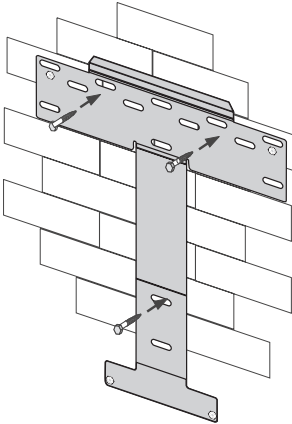
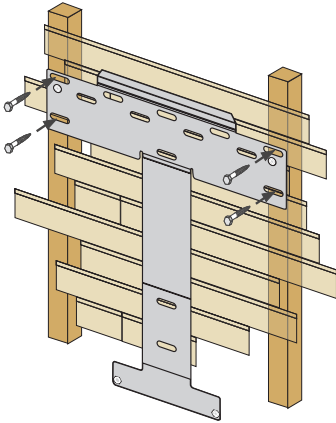

Figure 4-5: Mounting Bracket (stone wall mounting)
Figure 4-7: Mounting Bracket (wood wall mounting 2)
The Sunny Boy is shipped with a T-shaped wall-mounting bracket that is suitable for use with most walls (see Figure 4-5 through Figure 4-7). The horizontal part of the bracket has 12 holes, the 4 outermost holes are spaced on 16-inch centers for mounting on wooden stud walls. Make sure that the wall you choose to mount the Sunny Boy on is sturdy enough to support its weight (65 kg/145 lb.) over a long period of time and that the wall is plumb. The bracket may also be mounted on stone, brick or solid walls. Be sure to use the appropriate type of mounting hardware for the wall material and ensure that the hardware is no smaller than 1/4".
5. Insert the screws through the holes in the wall-mounting bracket and into the holes you drilled in the wall. Tighten the screws until the bracket is held firmly against the wall (see Figure 4-5). Do not overtighten the screws.